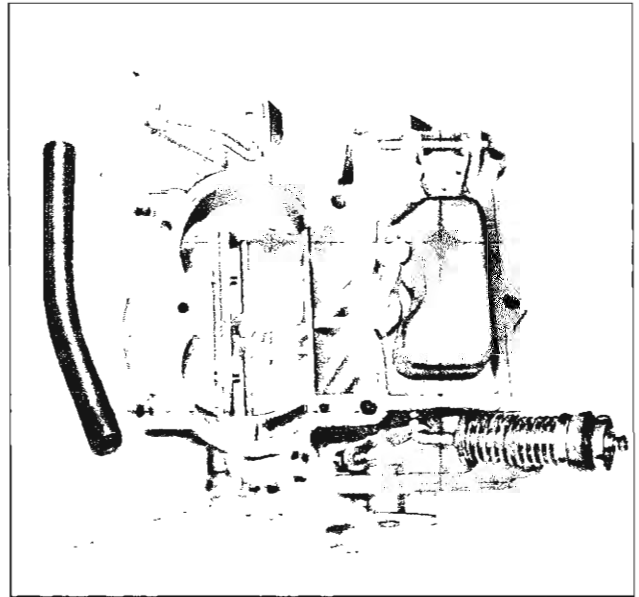

Fig. 36—Bowl Cover Assembled
6. Attach needle to float, carefully position float and insert float hinge pin. Figure 36 shows the bowl cover assembled.